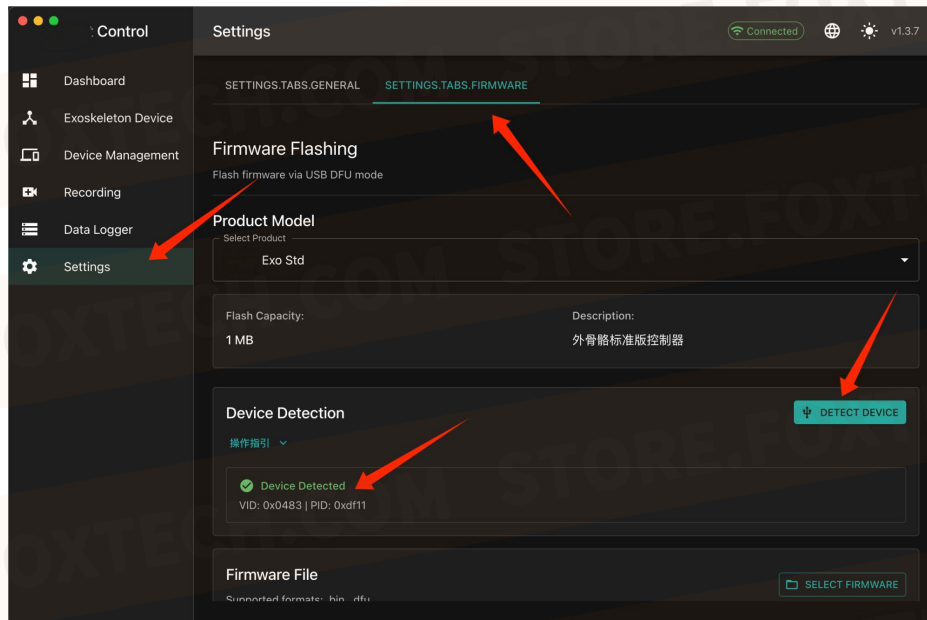

Figure 16 Host computer detecting the device
2. Click Settings in the host computer software, and then click Firmware flashing (see Figure 16).
6. Click to detect the device and end the operation when the device has been detected (see Figure 16).